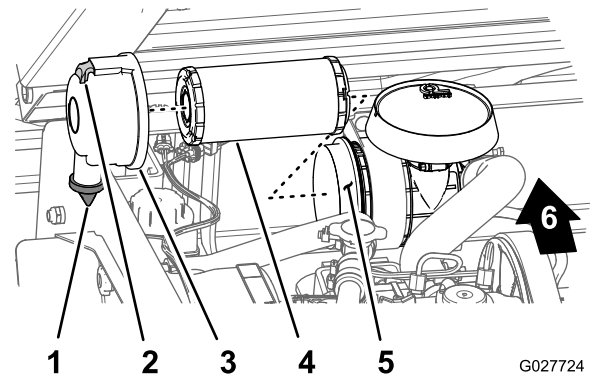

Figure 33
2. Check the air cleaner body for damage which could possibly cause an air leak. Ensure the air-filter cover is sealing around the air cleaner housing (Figure 33).
3. Pull the latch outward and rotate the air cleaner cover counterclockwise (Figure 33).
5. Gently slide the air-filter element out of the air-filter housing (Figure 33) to reduce the amount of dust dislodged.
1. Clean the dirt ejection port located on the air-filter cover (Figure 33).
2. Remove the rubber outlet valve from the cover, clean the cavity, and replace the outlet valve (Figure 33).
3. Insert the air-filter element into air-filter housing by applying pressure to the outer rim of the element to seat it into the air-filter housing (Figure 33).
4. Align the air-cleaner cover with the air-cleaner housing with the the rubber outlet valve in a downward position—between approximately 5:00 to 7:00 O'clock when viewed from the end (Figure 33).
5. Secure the cover to the housing with the latches (Figure 33).